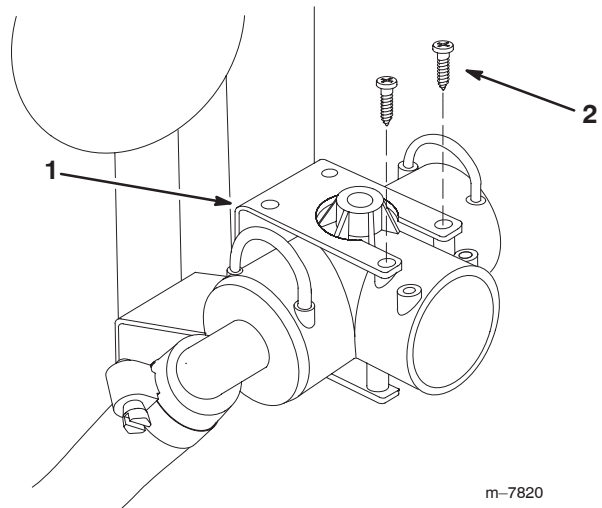

Figure 9
3. Remove the two bolts securing the supply tee to the mounting bracket (Fig. 9). Remove the supply tee and hoses.